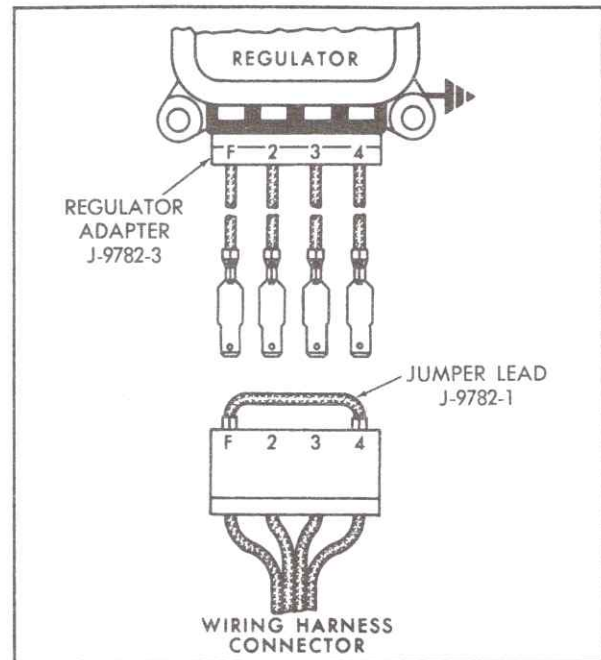

Fig. 6-33 Testing For Opens in Circuit
5. If lamp does glow, remove ground and connect as shown in Fig. 6-33.
6. If lamp glows, replace regulator or adjust voltage regulator setting. If lamp does not glow, leave connections as shown in Fig. 6-33 but connect a second jumper wire from generator "F" terminal to ground.